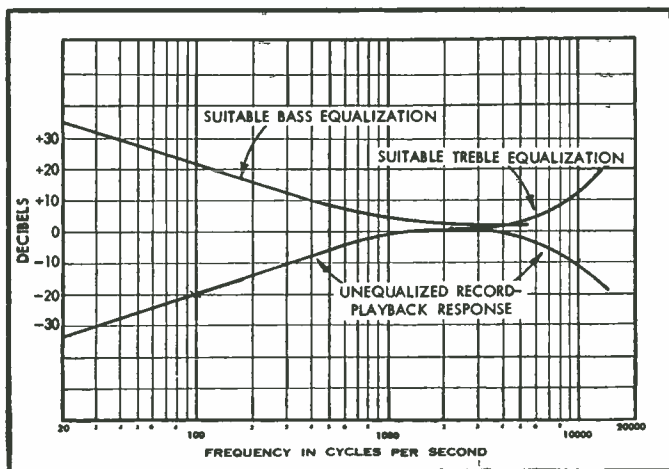

Fig. 1. Typical response of tape recorder at 7.5 ips without equalization.
Figure 1 is an introduction to the problem of equalization. It shows the typical response of a tape recorder at 7.5 ips without equalization of any sort, based upon a high-quality record-playback head (or separate heads) and normal bias. The figure also presents suitable bass and treble equalization curves that would achieve virtually flat response between 20 and 15,000 cps.
The story told by Fig. 1 is far from complete. Moreover, while the scheme of equalization therein is practical—in fact, something like it is employed by many moderate-price tape recorders—it is not the one almost universally employed in professional American machines and generally used for production of com-
By adding the record losses of (C) to the playback response of (E), one obtains the unequalized record-playback characteristic of Fig. 1.